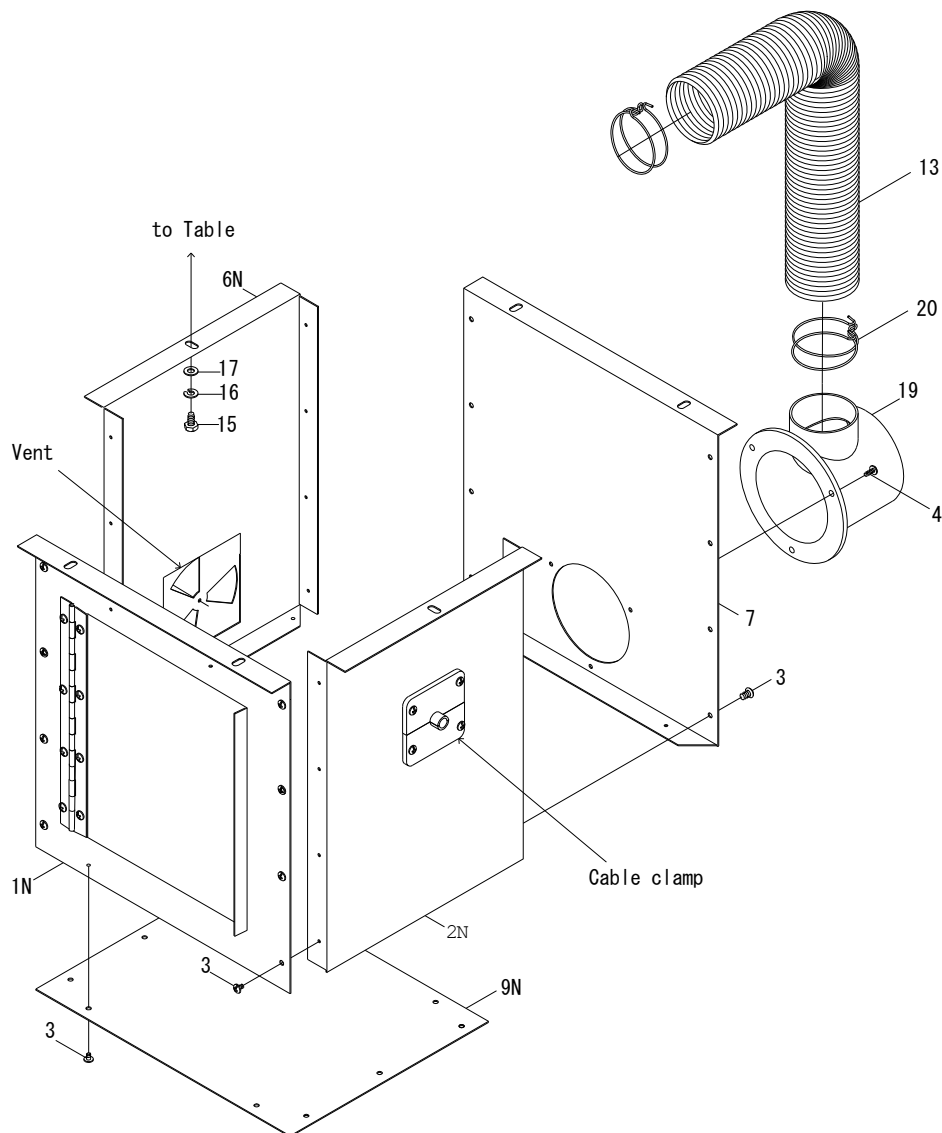

Figure 5-7
See Figure 5-7.
1. Mount table to stand and secure with fasteners. *Cast iron table:* Use socket head cap screws, lock washers and flat washers (#15/16/17, Figure 5-7) into threaded holes. *MDF table:* Use Phillips pan head wood screws into pilot holes.
7. Remove cord clamp from right panel of Dust Collection Box (see Figure 5-7). Feed router cord through hole and insert plug into receptacle on back of switch.
3. Adjust ventilation in dust collection box by rotating vent blades (see Figure 5-7).